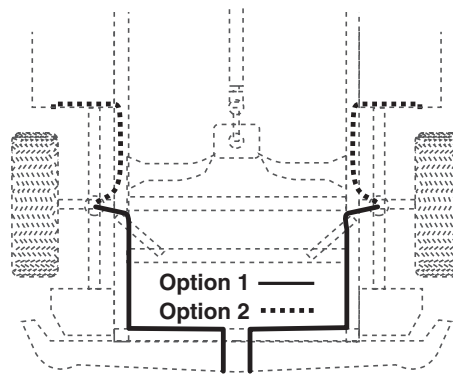

fig. 30
6. Route the air line along the frame to the air fitting on the air spring (fig. 30). Keep AT LEAST 6" of clearance between the air line and heat sources, such as the exhaust pipes, muffler, or catalytic converter. Avoid sharp bends and edges. Use the plastic tie straps to secure the air line to fixed, non-moving points along the chassis. Be sure that the tie straps are tight, but do not pinch the air line. Leave at least 2" of slack to allow for any movement that might pull on the air line.